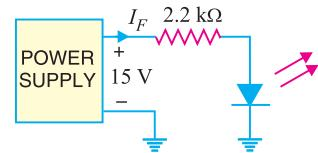

Fig. 7.5
**Example 7.2.** What is current through the LED in the circuit shown in Fig. 7.5 ? Assume that voltage drop across the LED is 2 V.